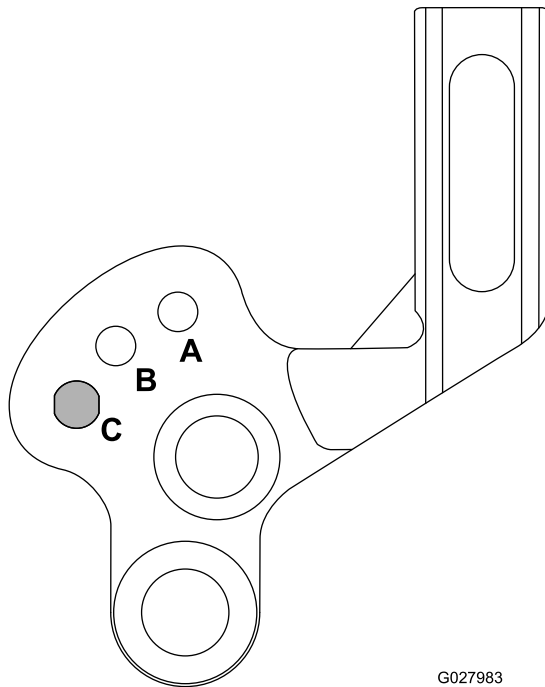

Figure 20
- B. Rotate the arms up or down to the A or B position (Figure 20).
When you wish to mow without the groomer or need to transport the machine, raise the grooming reel into its raised transport position as shown in Figure 20.